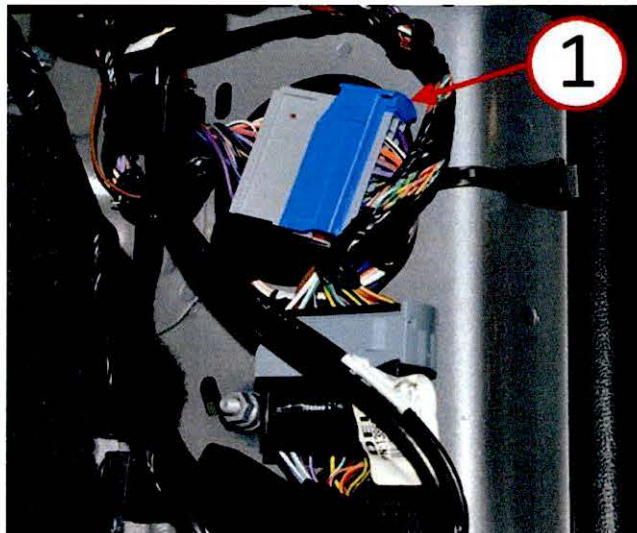

**Fig. 24 Electrical Connector Terminal Retainer**
28. Install the red electrical terminal lock wedge to the body side electrical connector C154 (Fig. 24).